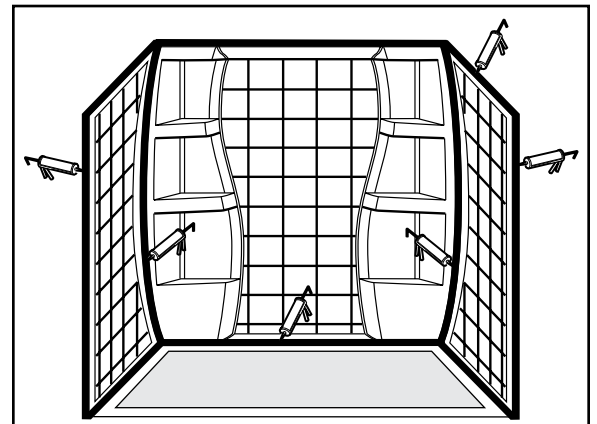

Figure 6
- 8** After greenboard is installed, apply finished caulk bead to all edges and joints (Figure 6). Follow caulk manufacturers' recommended cure time.